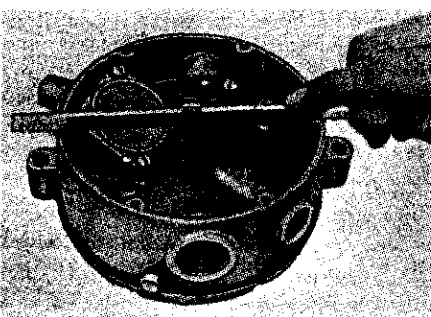

Fig. 114—Checking secondary valve lever adjustment with Century gage No. 2V-01. Alternate method is to use straight edge and steel rule; refer to Fig. 115.
Install new secondary valve seat (17—Fig. 110) on lever (15) with pin (18), bend pin over (do not hammer) and clip off excess length of pin. The seat should fit loose enough to be self-aligning against venturi. Place spring (19) in pocket in converter body, then install pin (16) through lever and install the assembly with the two retaining screws. Open valve by hand and allow it to snap closed several times to align seat with orifice, then using special gage (Borg Warner part No. 2V-01) or straight edge and rule, measure lever height as shown in Fig. 114. Bend lever as necessary to obtain the 5/16-inch distance between lever and machined face of converter body.